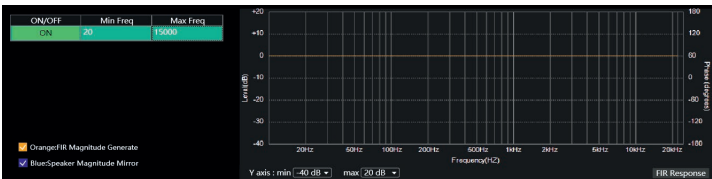

Figure 7.0 Frequency Adjustment View
①: Magnitude frequency correction range settings.
②: Magnitude display area after frequency adjustment, as shown in Figure 7.0